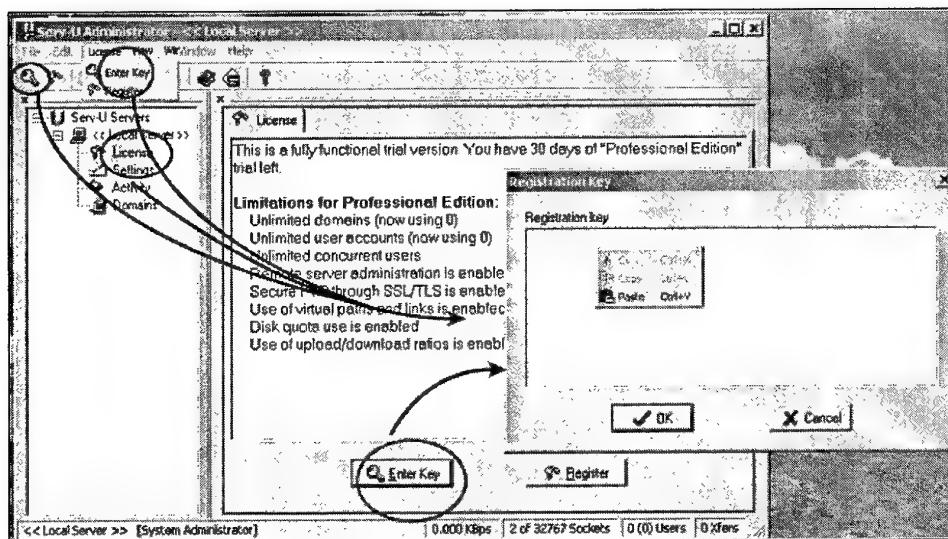

Figure 90. The different ways in which the registration key can be entered into the Serv-U setup Wizard.
the key icon (🔑), or click on the Licence drop down menu, and click on Enter Key. If the current installation is an upgrade and the setup wizard has not been spawned, then spawn Serv-U's main window by clicking on the Serv-U icon (U) in the bottom right-hand corner of the screen and follow one of the approaches just listed. Then paste the key into the registration window and click on the OK button. Figure 90 shows these details.